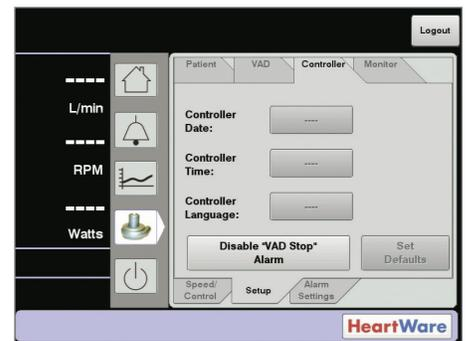

Figure 40: Disable "VAD Stop" Alarm ("Set Defaults" does not appear on monitor REF 1521)
- 1) Press 'Disable "VAD Stop" Alarm' indicator on monitor (Figure 40)